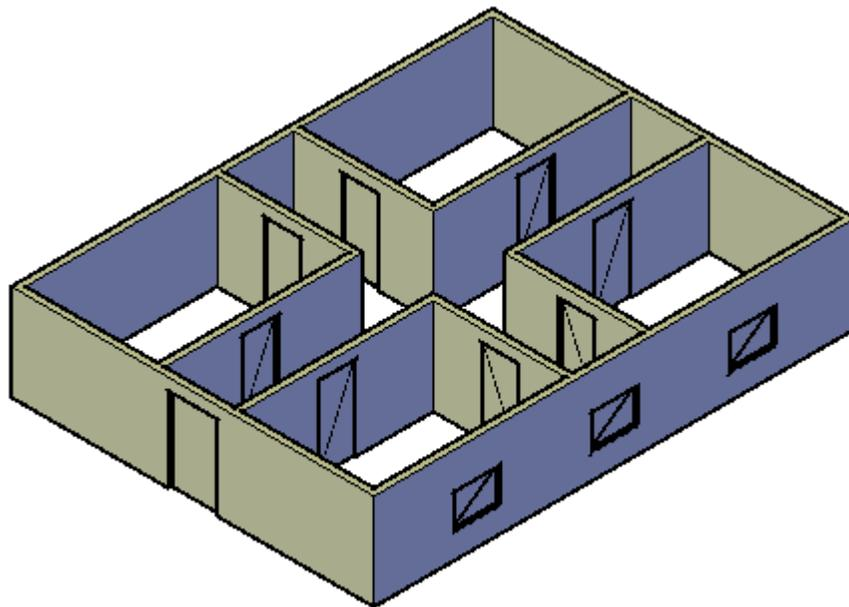
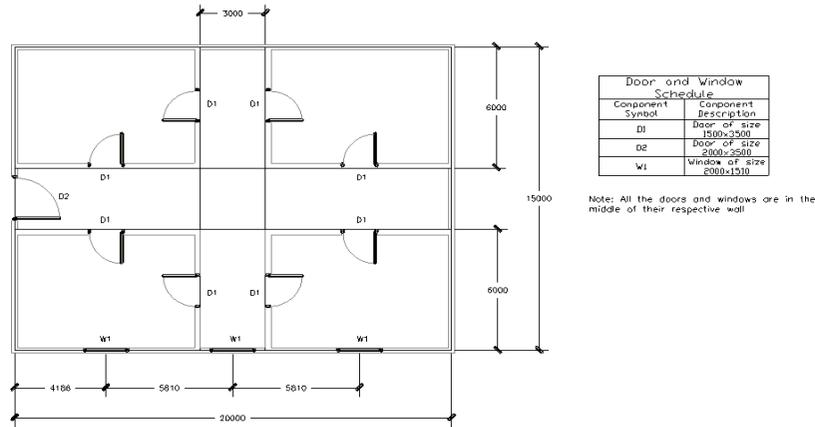
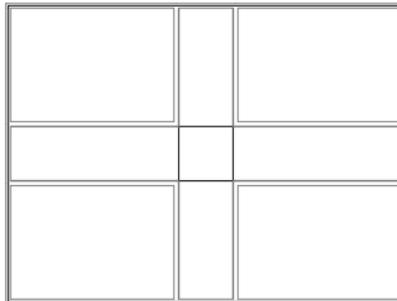

Figure 3-41 Model of a building
Figure 3-42 Plan view of a building
Figure 3-43 Walls created
In this tutorial, you will create a model of a building, as shown in Figure 3-41. The plan of the building is given in Figure 3-42. (Expected time: 30 min)
Examine the model to determine the number of features in it. The model consists of three features, refer to Figure 3-41.
- Create walls by using the reference of line diagram, refer to Figures 3-42 and 3-43.
- Create doors according to the plan, refer to Figures 3-42 and 3-44.
- Create windows according to the plan, refer to Figure 3-42.
3. Click to specify the start point of the wall and then create the walls, as shown in Figure 3-43. For dimensions, refer to Figure 3-42.
Now, you will create doors. For dimensions, refer to Figure 3-42.
- Click at the required locations to place the door D1, refer to Figure 3-42.
- Now, specify width as **2000** in the **Width** field available in the **Dimensions** rollout of the **PROPERTIES** palette and create the main gate D2. For positioning the gates, refer to Figure 3-42.
Now, you will create windows with the specifications given in Figure 3-42.
- Click at the required locations to create the windows W1, refer to Figure 3-42.